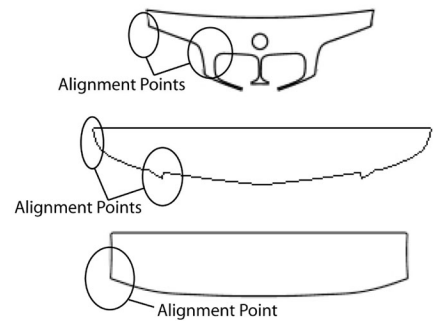

Figure 2
17. From the center to the edge, identify the first corner point, or alignment point, in the kit with which the kit can be aligned as shown in the examples in figure 2.